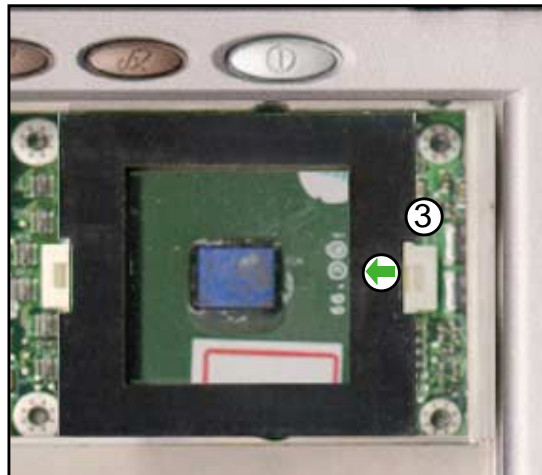

figure 3-11
2. Place a screw driver in the open slot of the CPU socket and move it to the left (figure 3-11).